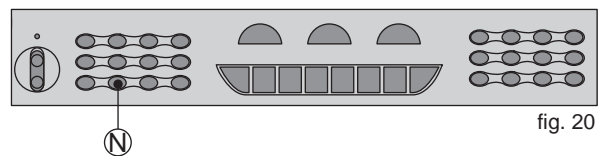

fig. 20
2. Press One Key (N) and then press the white key to select a melody in one key one note mode. Press any key to perform the main melody with the accompaniment repeated. **See fig. 20**